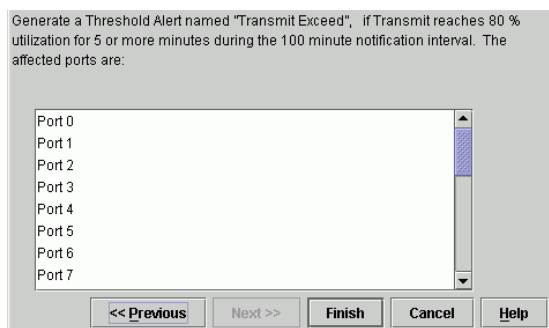

Figure 2-57 New Threshold Alerts Dialog Box (Screen 4)
11. Click *Next*. The *New Threshold Alert* dialog box (screen4) displays (Figure 2-57). This screen provides a summary of the alert configuration. To make changes, move back and forth through the configuration screens by selecting *Previous* or *Next*.